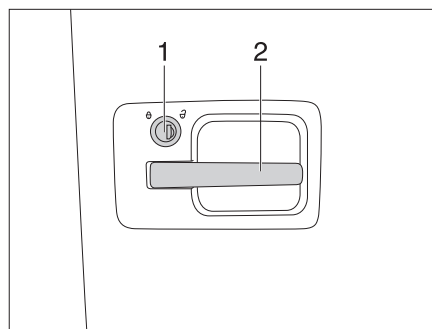
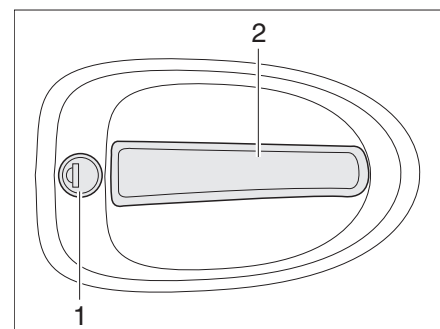

Fig. 19 Door lock, outside
Fig. 20 Door lock, outside
- Insert the key in the locking cylinder (Bild 19,1 and Bild 20,1) and turn clockwise until the door lock is unlatched.
- Pull on the handle (Bild 19,2 and Bild 20,2). The door is open.
- Insert the key in the locking cylinder (Bild 19,1 and Bild 20,1) and turn it anticlockwise until the door lock is engaged.